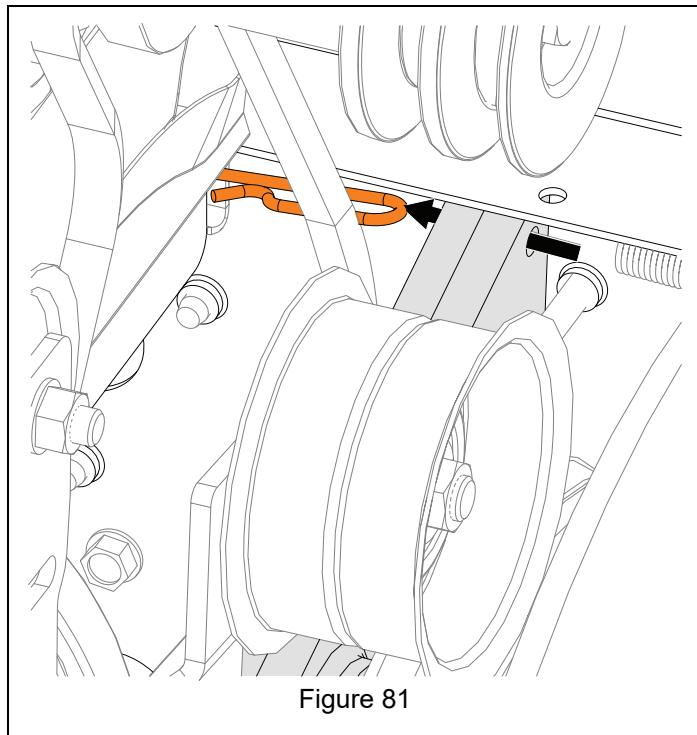

Figure 81
8. Disconnect lower traction clutch cable from swing gate. See Figure 81.